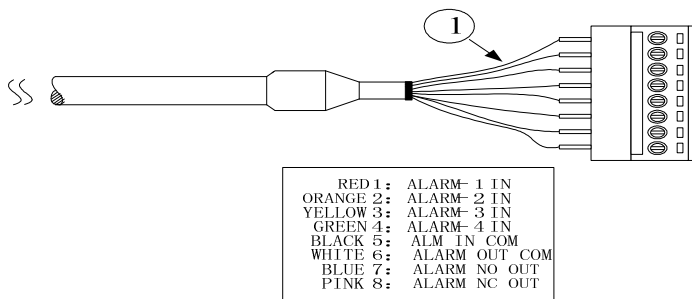
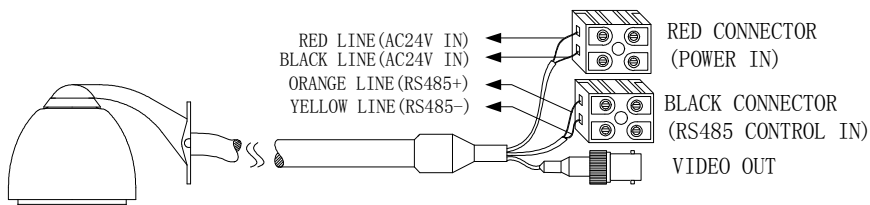

Figure 13
Figure 14
- 6) Trip wire to give alarm marking (Figure 13), System pilot wire marking(Figure 14)